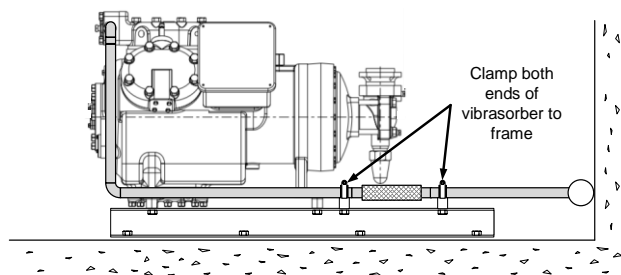
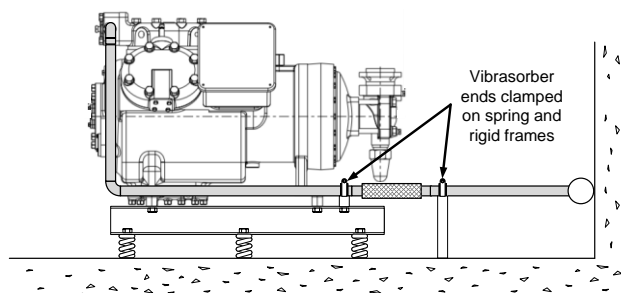

Figure 1 – Rigid Mounted Compressor & Vibrasorber
Figure 2 – Soft Mounted Compressor & Vibrasorber
6. When using solid mount compressors with vibration isolators, clamp the isolator at both ends as shown in Figure 1. If using a soft mount then the vibration isolator should be clamped one end on the spring platform and the other end to the rigid base as shown in Figure 2.